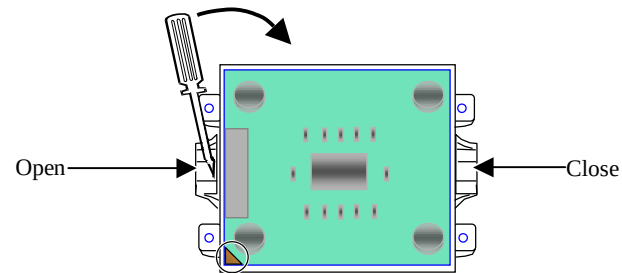

Figure 2-9 Remove the CPU socket
5. Then insert a minus screwdriver 101 (JIS standard) into the "OPEN" hole of the socket, and push the screwdriver toward the CPU to free the CPU. Now you can take out the CPU from the socket. (Figure 2-9)